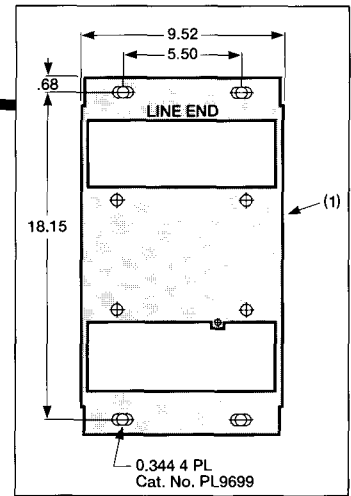

Figure 1
Mounting Preparation: Figures 1 and 2
- B. If the switchboard mounting plate (1) is to be used, provide required drilling as shown in Figure 1.